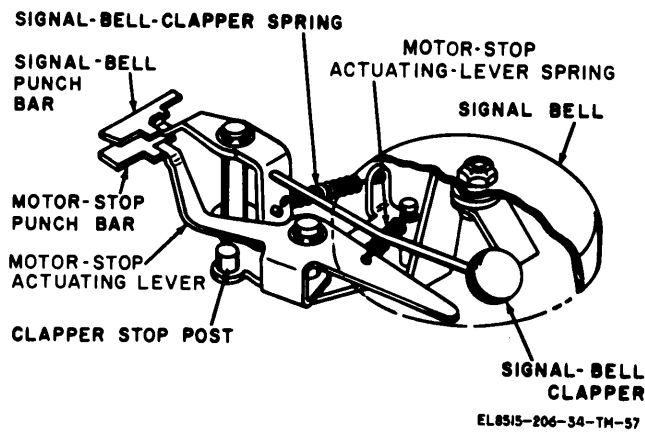

Figure 2-57. Signal bell mechanism.
b. *Ringling Signal Bell.* Immediately after the function-selecting arm is positioned (a above), a lobe of the function cam (fig. 2-30) causes the function-cam follower to pivot counterclockwise, moving the function-selecting arm against the signal-bell punch bar (fig. 2-57). The signal-bell punch bar moves inward, pivoting the signal-bell clapper against the signal bell. After the bell rings, the function cam moves the function-selecting arm away from the signal-bell punch bar; the signal-bell-clapper spring pulls the clapper away from the bell and the signal-bell punch bar moves to its normal outward position.
| <ol style="list-style-type: none"> <li>1 Letter S code group received; platen in figures-shift position.</li> <li>2 Y-levers positioned for selection of signal-bell operation (para 2-18a and b).</li> <li>3 Transfer-lever-latch tripping cam trips transfer-lever latch; transfer operation occurs (para 2- 19).</li> <li>4 T-levers and code rings positioned for selection of S stop bar.</li> <li>5 S stop bar moves into groove in code rings.</li> <li>6 Square-shaft stop arm strikes S stop bar; square shaft stops turning.</li> <li>7 Type-selecting arm positioned in alignment with connecting bar geared to letter S type bar.</li> <li>8 Lobe of print cam causes type-selecting arm to move forward (fig. 2-26).</li> <li>9 Letter S type bar swings upward; motion of type bell bar halted before blank portion of type bar strikes platen; nothing printed.</li> </ol> | <table border="0"> <tr> <td style="vertical-align: top;"> <ol style="list-style-type: none"> <li>Function-clutch latch releases function-clutch drum; function-clutch latch members move into engagement (fig. 2-27).</li> <li>Function shaft and square shaft start turning.</li> <li>Function-selecting arm positioned in alignment with signal-bell punch bar in punch-bar-guide block.</li> <li>Lobe of function cam pivots function-cam-follower, causing function-selecting arm to push signal-bell punch bar inward (fig. 2-57).</li> </ol> </td> <td style="vertical-align: top;"> <ol style="list-style-type: none"> <li>Signal-bell clapper strikes</li> </ol> </td> </tr> </table> | <ol style="list-style-type: none"> <li>Function-clutch latch releases function-clutch drum; function-clutch latch members move into engagement (fig. 2-27).</li> <li>Function shaft and square shaft start turning.</li> <li>Function-selecting arm positioned in alignment with signal-bell punch bar in punch-bar-guide block.</li> <li>Lobe of function cam pivots function-cam-follower, causing function-selecting arm to push signal-bell punch bar inward (fig. 2-57).</li> </ol> | <ol style="list-style-type: none"> <li>Signal-bell clapper strikes</li> </ol> |
| <ol style="list-style-type: none"> <li>Function-clutch latch releases function-clutch drum; function-clutch latch members move into engagement (fig. 2-27).</li> <li>Function shaft and square shaft start turning.</li> <li>Function-selecting arm positioned in alignment with signal-bell punch bar in punch-bar-guide block.</li> <li>Lobe of function cam pivots function-cam-follower, causing function-selecting arm to push signal-bell punch bar inward (fig. 2-57).</li> </ol>  | <ol style="list-style-type: none"> <li>Signal-bell clapper strikes</li> </ol>   |  |   |
(1) Immediately after the function-selecting arm is positioned (*a* above), a lobe of the function cam (fig. 2-30), causes the function-cam follower to pivot counterclockwise, and move the function-selecting arm against the motor stop punch bar (fig. 2-57). The motor-stop punch bar moves inward (platen in
| 9 | Letter H type bar swings upward: motion of type bar halted be-                                 | Motor-stop punch bar pivots motor-stop actuating lever (fig. 2-57); actuating lever   |